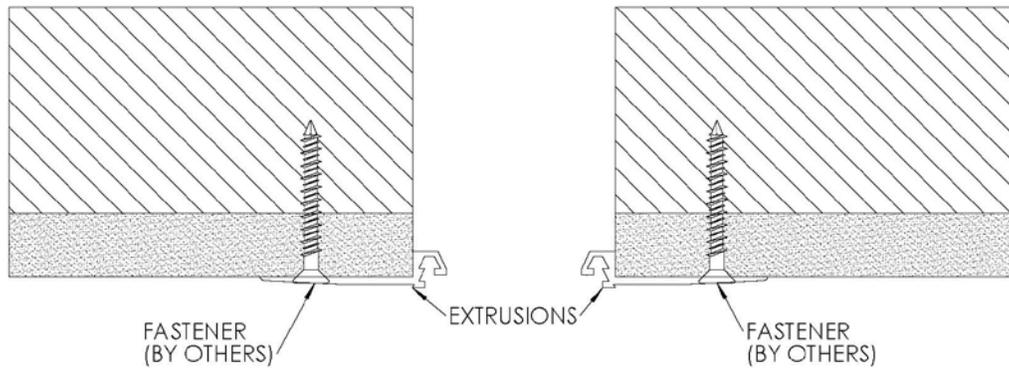

FIGURE 1
1. Position aluminum extrusions in the expansion joint as shown and attach with appropriate fasteners (by others) for the substrate. 18” on center (stagger seams, as necessary). **See Figure 1**